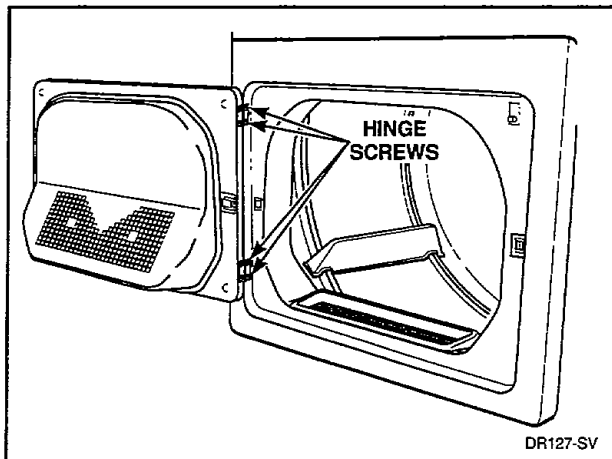

Figure 15
- i. While supporting door assembly, secure hinges to front panel using the four remaining screws, *Figure 15*. Tighten all screws firmly.